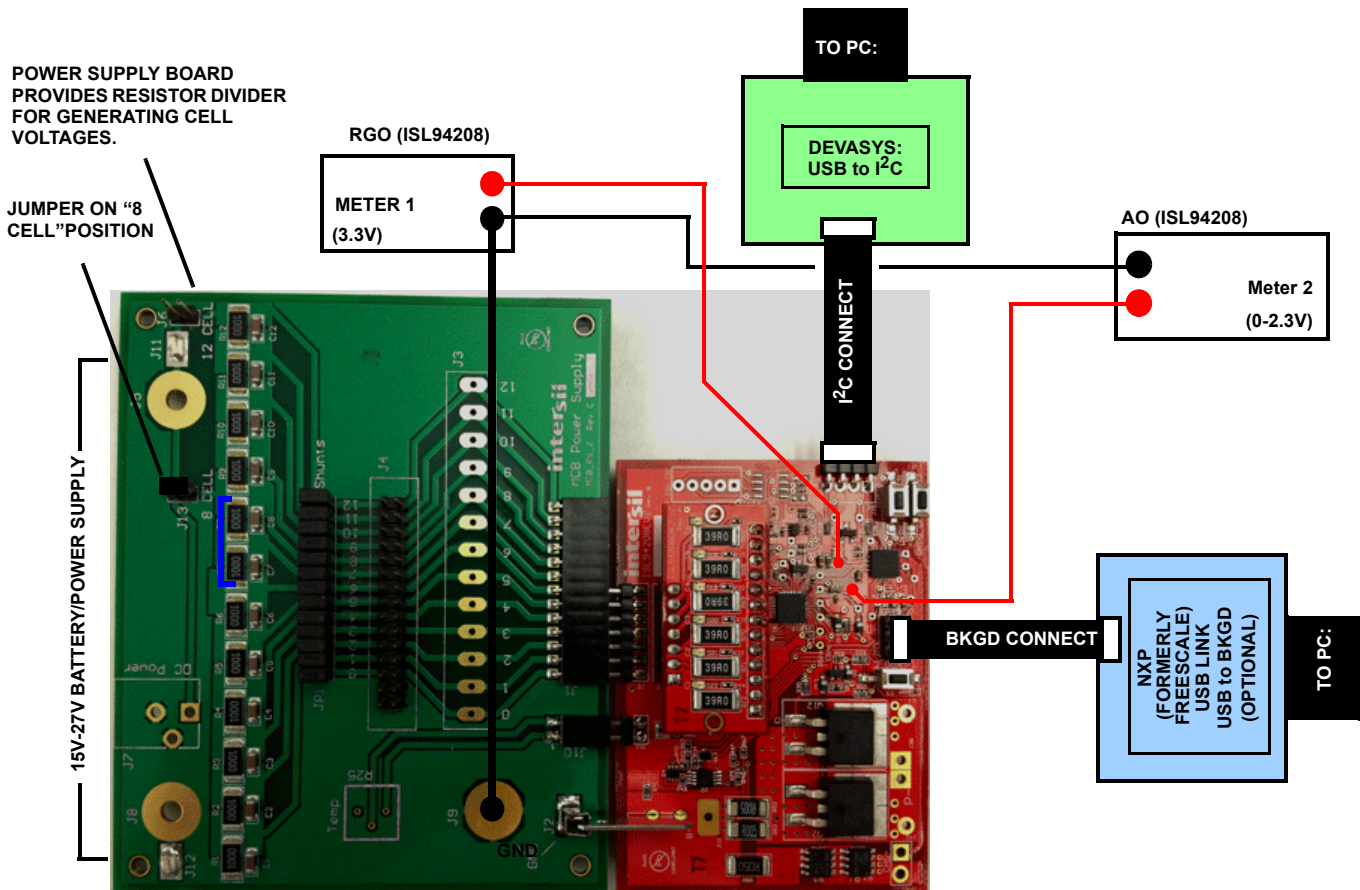
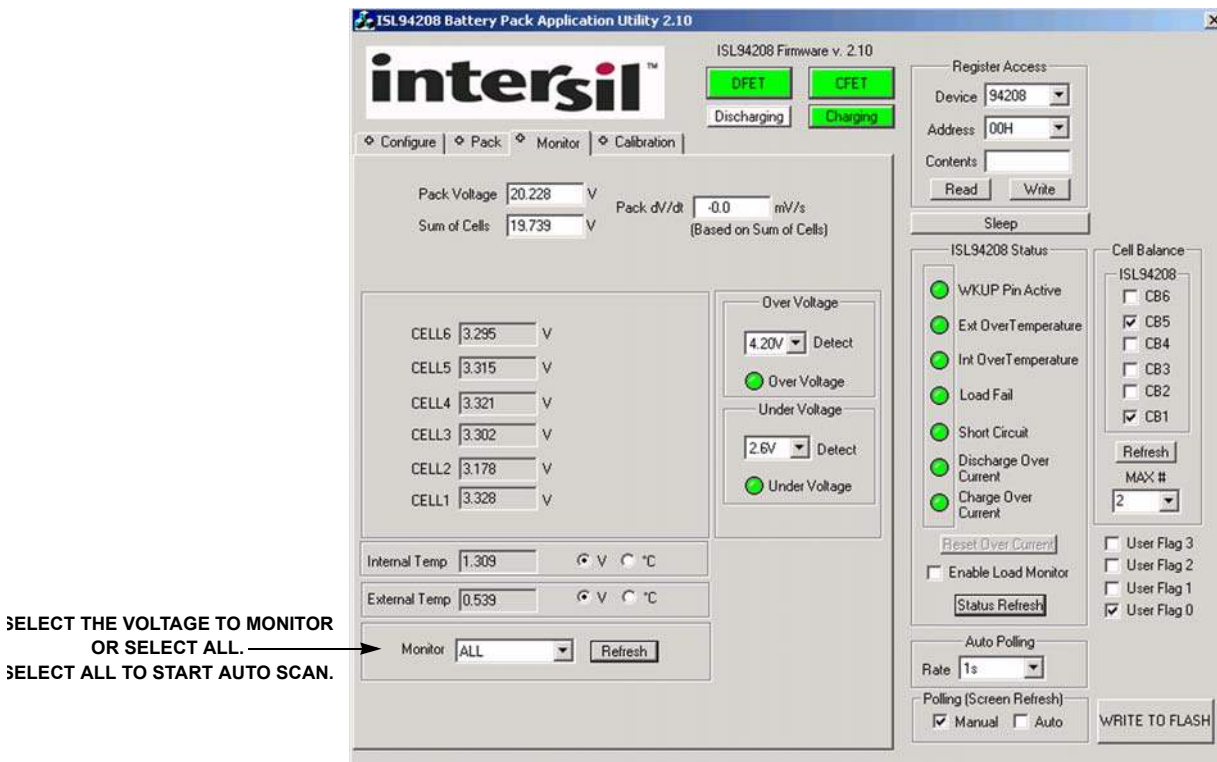

FIGURE 4. ISL94208EVZ EVALUATION BOARD TEST CONNECTION
FIGURE 6. ISL94208 GUI MONITOR TAB
- Figure 4 shows a green board is connects between a power supply and the evaluation board. This multi-option board supports the connection a single power supply (using an on-board resistor divider), or separate power supplies for each input, or battery cells.
- Before connecting the PC to the ISL94208EVZ board (through the USB to I2C interface) turn off the power supply and then plug the ISL94208EVZ board into the power supply board as shown in Figure 4.
In normal operation, the cell voltages are scanned four times per second. If monitoring the AO voltage (as shown in Figure 4), the meter will not be stable, since it sees an output of a series of voltages. A scope can be used to monitor the AO output, or use the GUI to select a specific voltage or temperature. This operation by the GUI stops the microcontroller from automatically scanning the voltages and puts the selected voltage on AO constantly. Automatic scanning will not start again until the GUI selects Monitor "All" (see Figure 6).